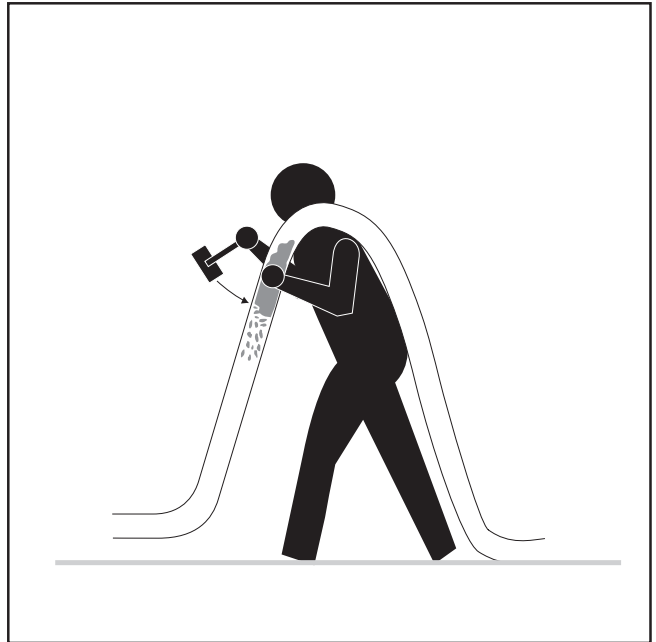

FIG.56
- Strike the hose with a hammer (FIG. 56) to break the obstruction and discharge the pressure downstream.